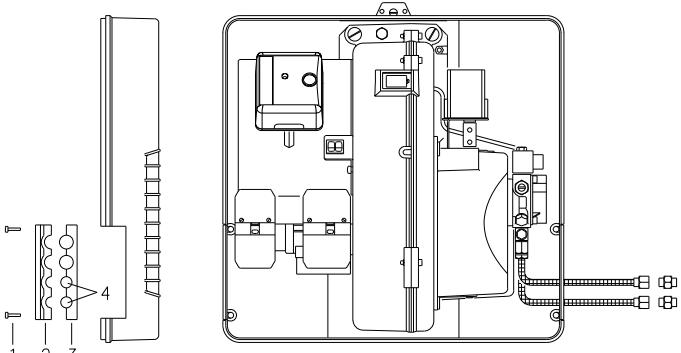

Fig. 17
- unscrew the screws 1)(Fig. 17), now divide the insert piece into its two parts 2) and 3) and remove the thin diaphragm blocking the two passages 4).